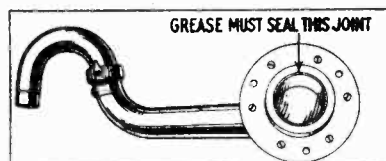

Fig. 13
g. Place a liberal quantity of FIRM CUP GREASE around the inside diameter of the washer so that the joint shown in Fig. 13 will be well sealed when the tone arm is replaced. This joint is the most likely point of air leakage, but when properly sealed it should remain air tight indefinitely.